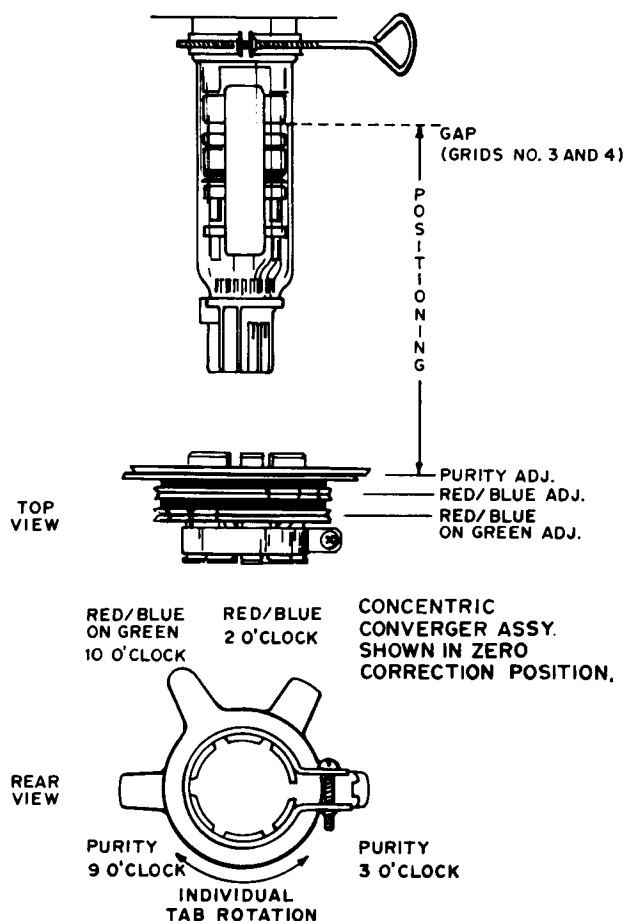

Figure 2
- 2.2 Set the converger assembly on the CRT neck with the centerline of the purity adjustment magnet over the gap between grids no. 3 and 4 (see Figures 2 and 6).